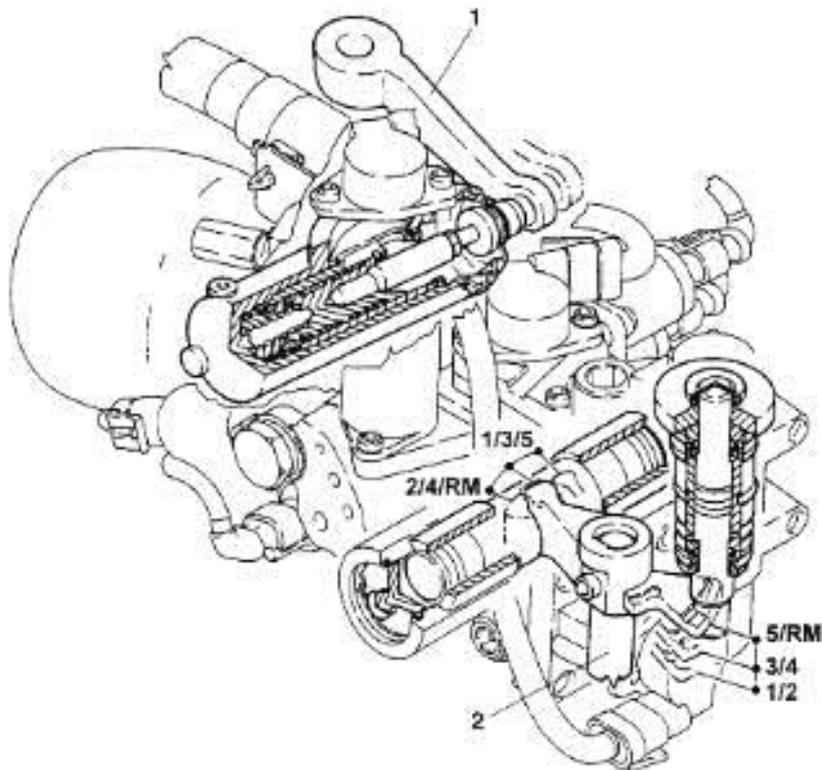

Figure. 5. Section of clutch control - gearbox actuators
As can be seen from figures 5 and 6, the CFC 208F control unit, before each gear change, activates the clutch (1) by a servo actuator and a solenoid valve (EVO) controlled by the control unit. The control function of the gear shaft takes place in these steps: